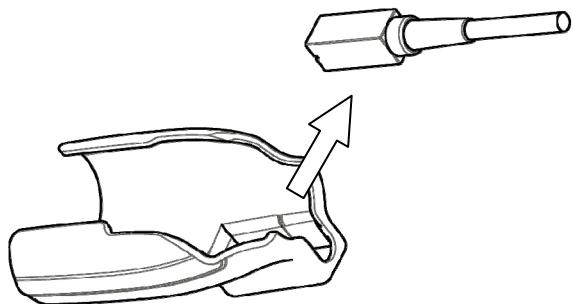

Fig. 8 How to release the Magnetic sensor from the Magnetic sensor attachment
- 2) Release the magnetic sensor from the magnetic sensor attachment as shown Fig. 8